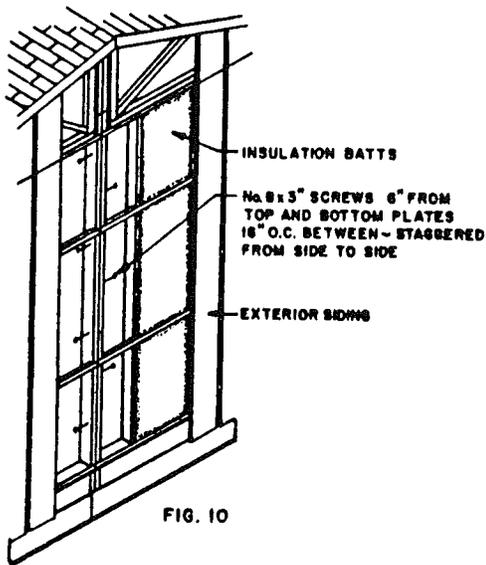

FIG. 10
5. Secure the end walls with #8x3" screws (see fig. 10). Again, be sure that the insulation strip is in place.
2. Before installing end wall closure materials, make all electrical crossovers as shown in figs. 15 and 16. Insert fiberglas batts in any open stud cavities. Close the front and rear walls with the provided materials using the existing siding as a guide. On units that have a bottom starter, it should be installed before the vertical siding. On units with wood or hardboard siding, all seams shall be sealed and/or caulked. See fig. 10.